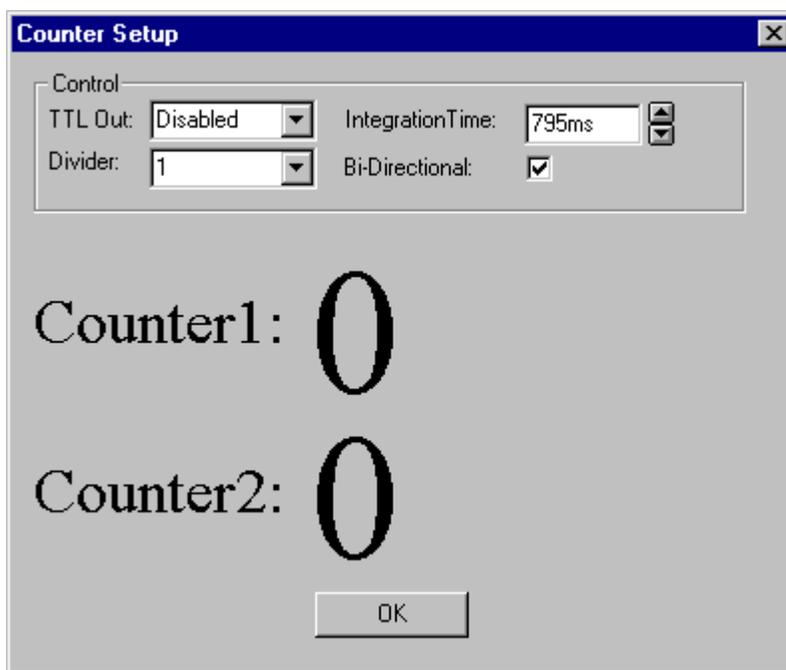

Figure 5-1 Counter Setup Dialog Box
- Step 4** Select **SETUP ⇒ COUNTER**. The Counter Setup dialog box opens, as shown in Figure 5-1.